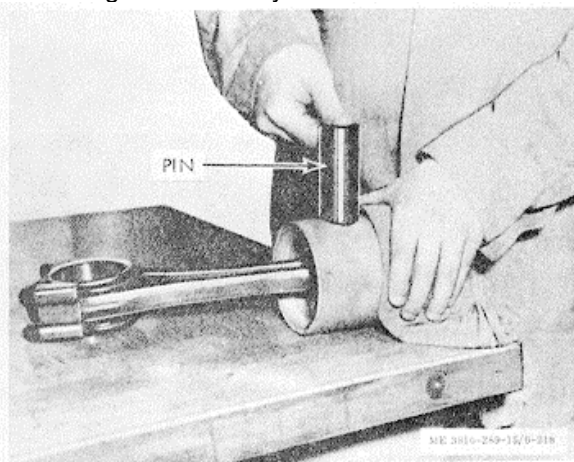

Figure 3-210. Installing pin in piston and rod.
(3) Check weight of all connecting rods. Actual weight of each rod assembly (which includes bushings, bearing shells, bolts, nuts and lockplates) must not vary more than 0.03 lb. among all assemblies in any one engine.
(4) Heat aluminum piston in boiling water and push piston pin through piston and connecting rod before piston cools, figure 3-210.